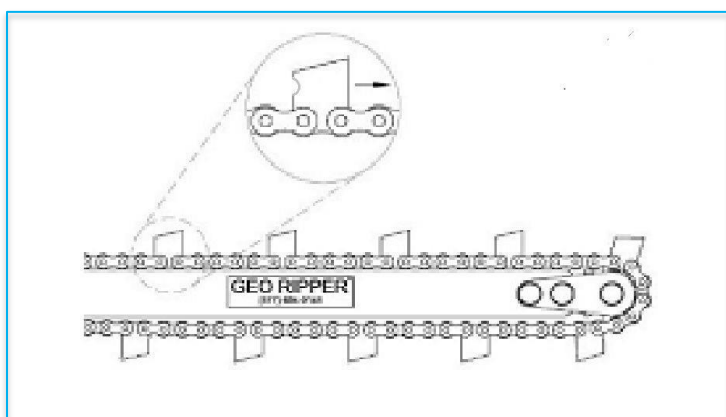
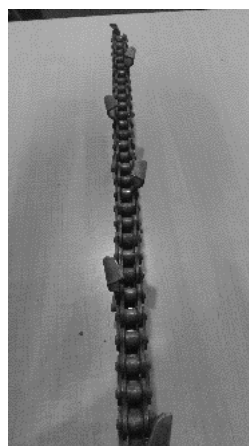

Fig.8
Fig.9
3. Check that the chain is facing in the right direction (Fig.8 and Fig.9) with the curved cutting edge of the teeth pointing towards the nose of the bar
5. Double check the chain is facing in the right direction (Fig.8). A pictogram is also showing on the box for the chains